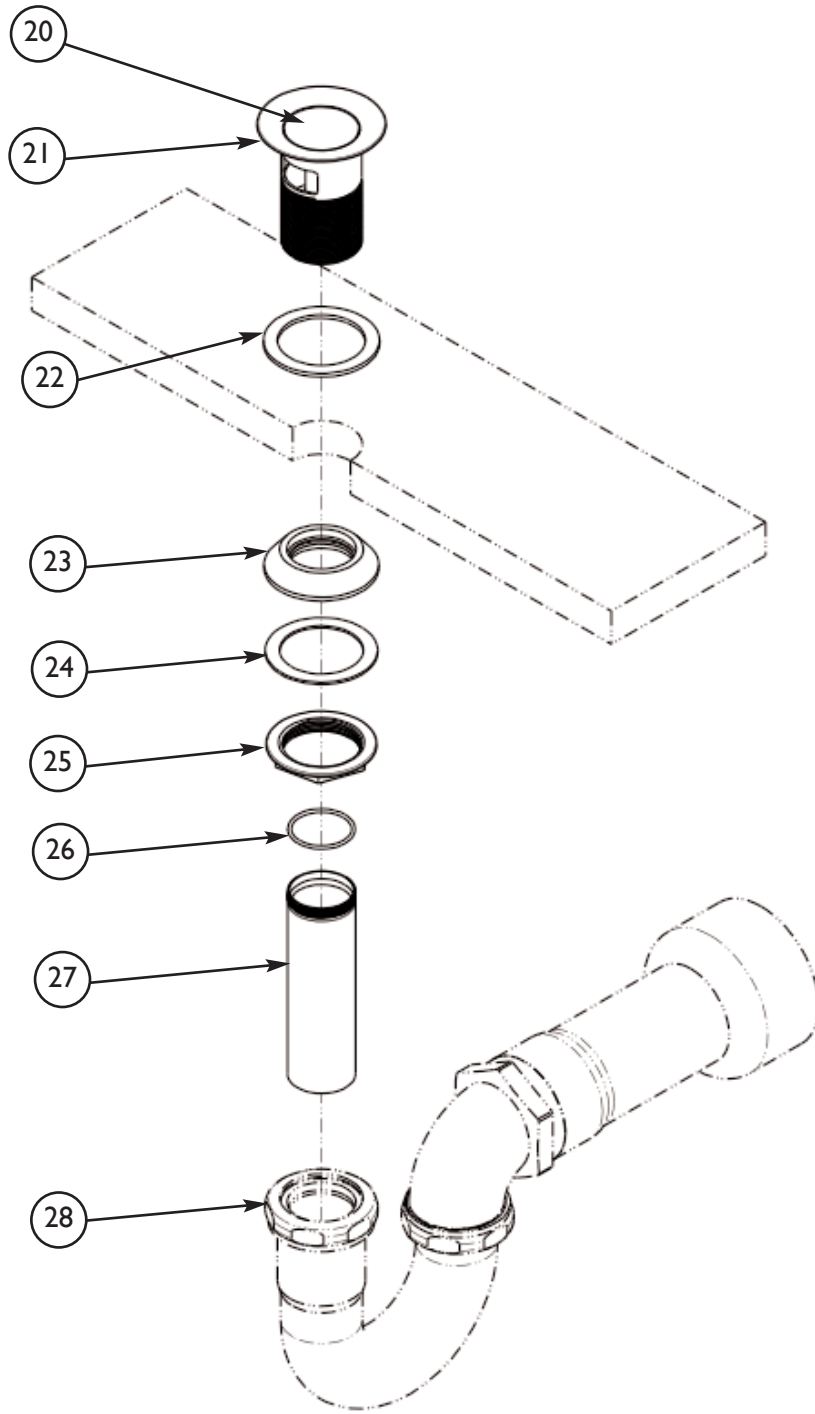

Figure 5
7. Do not remove drain PLUG (20) from FLANGE (21). Place FLANGE (21) and white WASHER (22) through sink drain opening. (Clear silicone may be used in place of white washer.) From bottom side of sink, place cone shaped rubber WASHER (23) onto FLANGE (21) and slide up against sink bottom. Note: Cone portion of WASHER (23) to face upward. Next slide on clear flat WASHER (24) and secure with flange NUT (25). Assemble O-RING (26) to TAILPIECE (27) and attach to drain FLANGE (21). Attach TAILPIECE (27) to p-trap drain (28) (not included). See **Figure 5**.